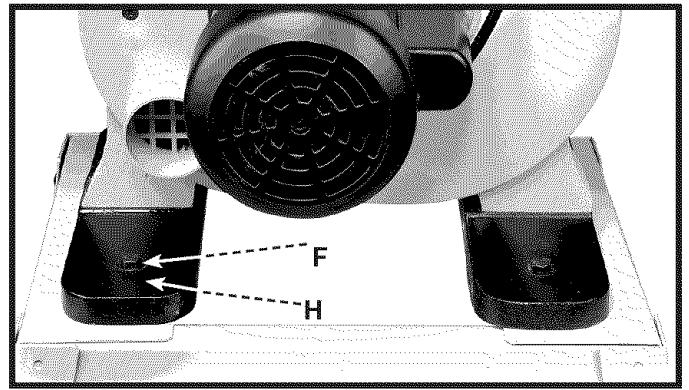

Fig. 7
- Place a 3/8" flat washer (H) Fig. 7 on M8 x 45mm hex head screw. Insert the screw through the hole in the band saw and and through the hole in the stand. Repeat this process for the three remaining holes.